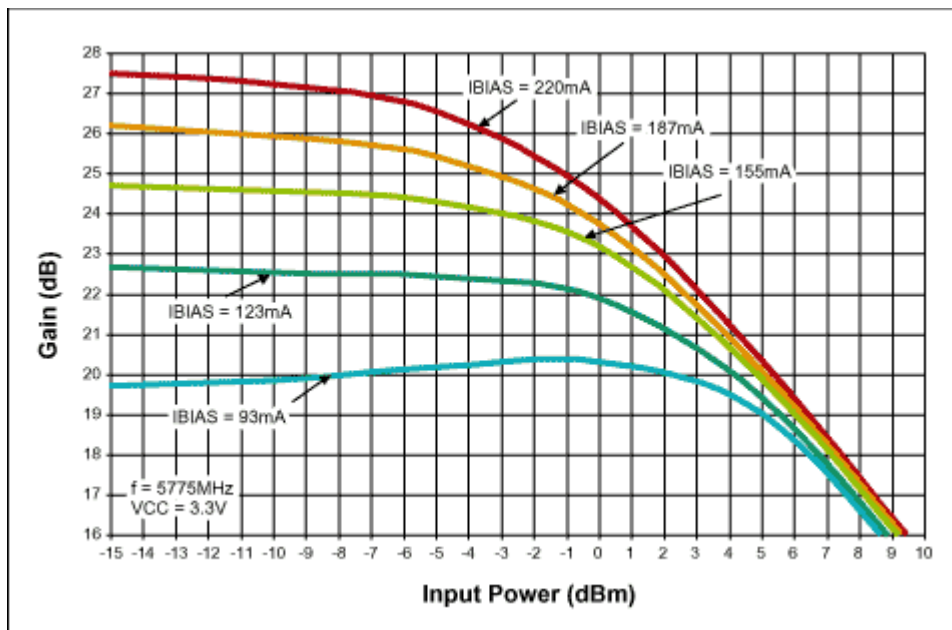

Figure 2. The MAX2840 5.8GHz PA gain vs. input power and bias current
- **Gain.** Refer to Figure 2 for a graph of gain vs. input power for various bias current settings. In addition, lowering the bias current of the PA, lowers the overall bias current of the device under RF drive.